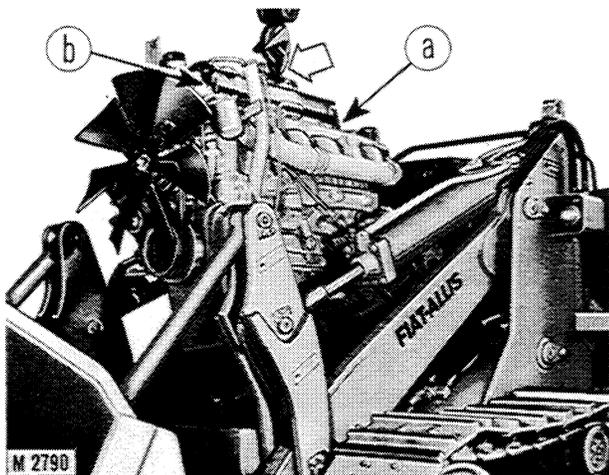

Fig. 2-2 - Removal (installation) of engine-converter assembly using lifting hook 75295500.
8. Remove the engine-to-frame pad mounting nuts and apply hook 75295500 as shown in Fig. 2-2, positioning front and rear hook eyes as illustrated in details A and B. Then lift the complete assembly.
- position the lifting hook 75295500 as shown in Fig. 2-2;